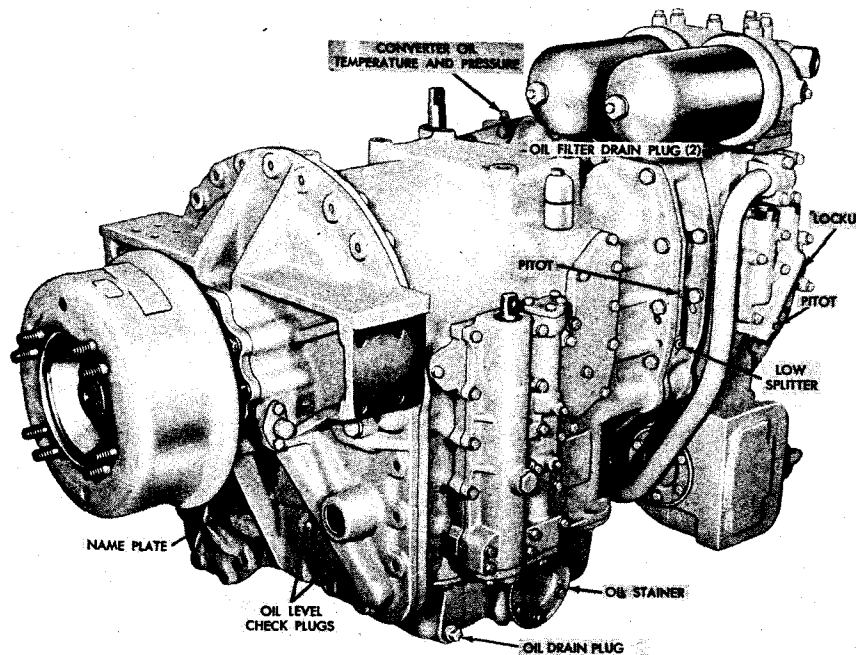
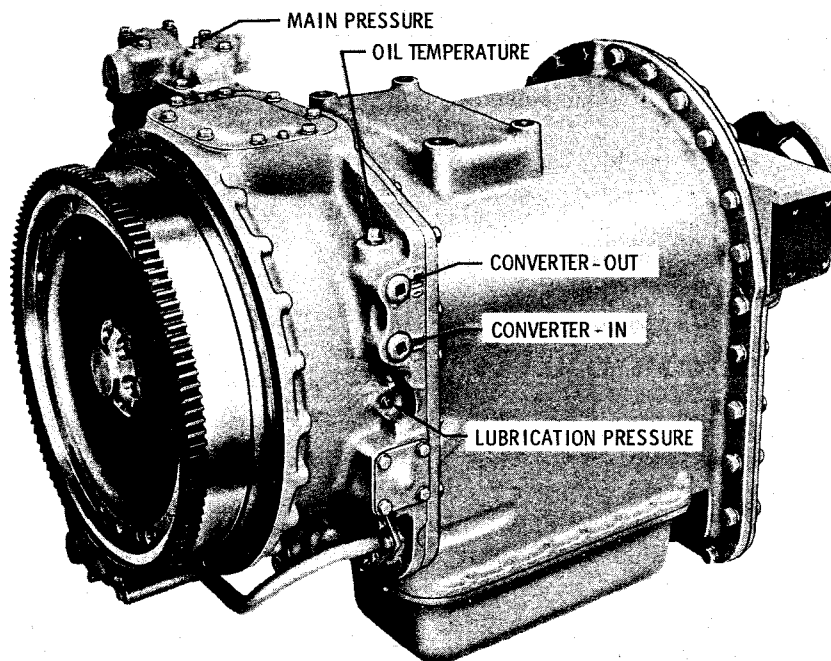

Fig. 3-3. Oil system check points (straight-through model)—right-rear view
Fig. 3-4. Oil system check points—left-front view
(3) Remove the oil filter drain plug (fig. 3-3), then remove the filter shell center bolt and shell. Remove and discard the filter element and the filter shell gasket. Install a new element and new gasket. Install the filter shell. Repeat this procedure for the other filter element.
(3) On transmissions equipped with valve body assembly 4 (B, foldout 8), the main-pressure tap is at the top of body 8. This opening is tapped for plug 5. Figure 3-4 illustrates this check point.
(4) To check main pressure, attach an 0 to 300 psi pressure gage to the main-pressure check point while the engine is stopped. Refer to paragraph 3-3, above, for pressure schedules, and the prescribed conditions for obtaining pressures.
**b. Checking Lubrication Oil Pressure (CLT models only).** Install a pressure gage at the lubrication oil pressure check point (fig. 3-4). With the engine running at 1500 rpm, output stalled, the pressure should be 20 psi. With the engine operating at full throttle, output stalled, the pressure should be 30 psi. If it is necessary to adjust the pressure, refer to paragraph 3-15, below.
(1) Install a pressure gage at one of the pitot pressure check points (shown in fig. 3-3). Governor pressure depends upon the speed of rotation of the low-splitter (direct drive) clutch drum. Therefore, no reading can be had with the vehicle standing except when the shift control is in neutral position. In neutral, with engine running at 1000 rpm, the reading will be proportional to the speed of the turbine output shaft and will vary from 0 to approximately 30 psi.
(2) With the vehicle in motion, readings in each range will be proportional to the speed of the vehicle in that range. While the vehicle is being driven, there will be a momentary sudden drop in governor pressure as shifts are made from one range to another.
(3) When upshifting, the pressure will quickly return after the shift is made, but the pressure will be somewhat lower than before shifting. It will climb as the vehicle speed increases. In downshifting, the pressure will return and be somewhat higher than before shifting. It will fall as the vehicle speed decreases. Under certain operating conditions, governor pressure will vary from 0 to 120 psi.
**d. Checking Converter-out Pressure.** Install the pressure gage at the check point (shown in fig. 3-4). This reading will vary from 30 psi to 65 psi at full throttle, normal operating output speed range, depending upon the operational functions.
(1) Stator control pressure should be 150 to 170 psi in first gear with the output stalled and the engine operating at 1500 rpm (main pressure should not vary more than 5% of 170 to 185 psi). Replace spring 28 (A, foldout 10) if variation is more than 5%.
(2) The stator control pressure is taken at the top of the stator control valve. With the transmission in neutral, normal oil temperature,
a. Lockup speed should be checked with the transmission in fifth gear (third gear in the 5640 and 5840 models), at the point of lockup disengagement (release). The lockup pressure check point is shown in figure 3-3. The "out-of-lockup" rpm should be as close as possible to the vehicle manufacturer's recommendation.
Install a temperature indicator at the check point indicated in figure 3-4. The maximum oil
(1) Install the temperature indicator at the check point identified in figure 3-4.
(2) Apply the vehicle brakes securely.
(3) Start the engine and let it run at idle speed until the engine and transmission are warm.
(4) Shift the selector lever to sixth gear (fourth gear on 5640 and 5840 models) and increase the engine speed to full throttle.
(5) In stalled condition, the oil in the transmission will heat rapidly. When an oil temperature of 230°F is reached, throttle the engine momentarily and shift to neutral. Increase the engine speed to full throttle again and immediately check the rate of temperature drop. The oil temperature, after 2 minutes, should drop rapidly to normal. A slow drop rate, or failure to drop to normal, indicates that the stator may be locked. A rapid drop to normal temperature indicates proper functioning of the stator. If a locked stator is indicated, refer to the troubleshooting chart, at the end of this section, for corrective action.